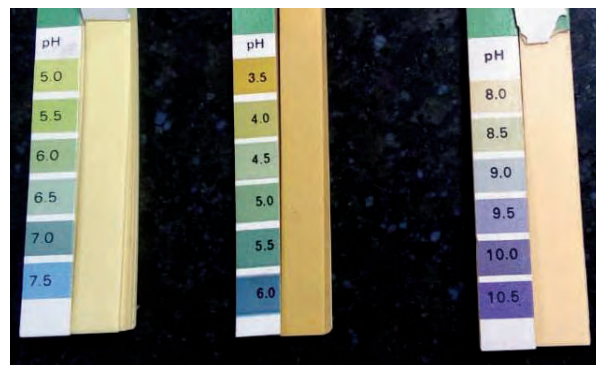

Fig.1.2: pH colour strip scale
It is important to test the suitability of water quality for its intended purpose. Water testing will help to know whether the quality of water is fit for irrigation or not. If it is not, then one needs to find out what is the specific reason for the poor quality of water. Generally, the pH and electrical conductivity (EC) are the two most important parameters for water quality analysis. When a pH colour strip is dipped into alkaline or acidic water the colour changes as shown in Fig. 1.2.